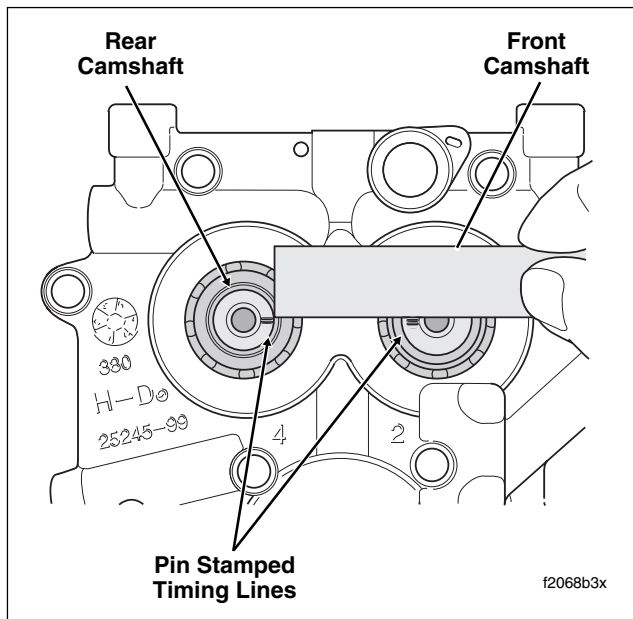

Figure 3-113. Verify Alignment of Timing Lines on Ends of Camshafts
- Since the pin stamped timing lines on the secondary sprockets cannot be observed once the camshafts are pressed into the bearings, note that the outboard ends of the shafts have a second set of timing lines (although they may be somewhat difficult to see). Using a straight-edge, verify that these timing lines are in alignment. See Figure 3-113. If they are not, then the camshafts must be removed and reinstalled (with a new bearing set).